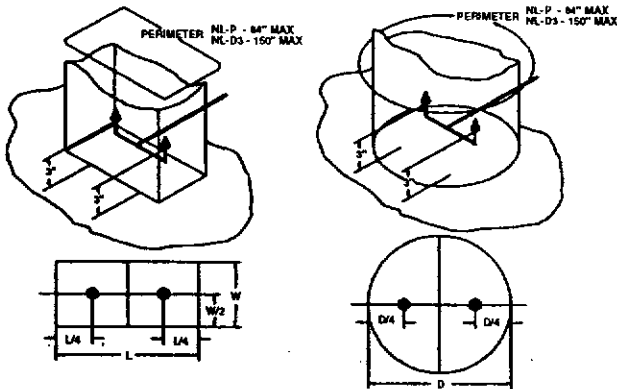

Figure 3-2.1. Dual Nozzle Placement In Duct.
Two (2) Model NL-D1 exhaust duct nozzles can protect a square or rectangular duct with a maximum perimeter of 84 inches and a maximum one-side length of 34 inches. They can also protect a round duct with a maximum circumference of 84 inches and a maximum diameter of 26.5 inches. When two (2) Model NL-D1 nozzles are used to protect a single duct, the cross sectional area of the duct must be divided into two equal symmetrical areas. The nozzle must then be installed on the centerline of the area it protects and aimed directly into the duct opening (see Figure 3-2.1).
Two (2) Model NL-D3 exhaust duct nozzles can protect a square or rectangular duct with a maximum perimeter of 150 inches and a maximum one-side length of 66 inches. They can also protect a round duct with a maximum circumference of 150 inches and a maximum diameter of 47.5 inches. When two (2) Model NL-D3 nozzles are used to protect a single duct, the cross sectional area of the duct must be divided into two equal symmetrical areas. The nozzle must then be installed on the centerline of the area it protects and aimed directly into the duct opening (see Figure 3-2.1).